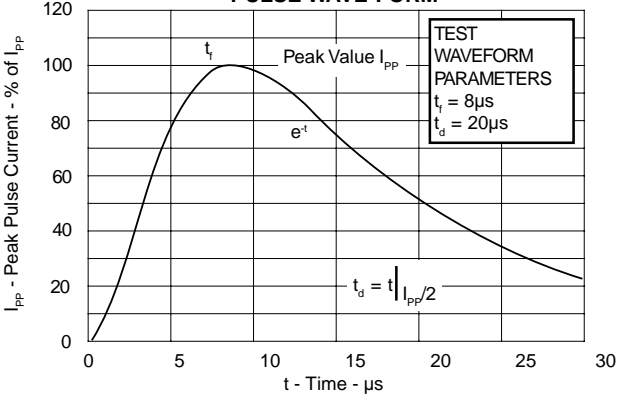

FIGURE 3
**BIDIRECTIONAL DIFFERENTIAL MODE CONFIGURATION 5 pF (Figure 3)**